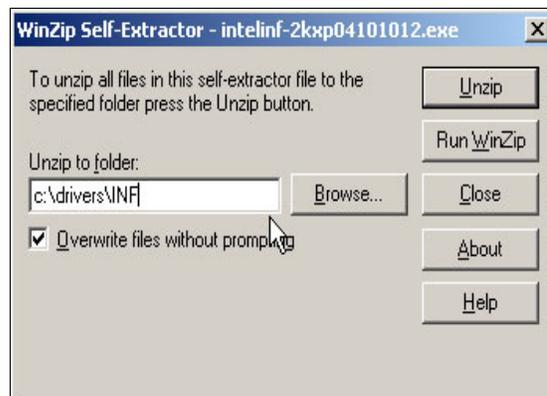

Figure 2-20 Select Extract location for driver package
2. Next, we run the executable for system board driver and select an extract location for the files and click the Unzip button as shown in Figure 2-20 on page 32.